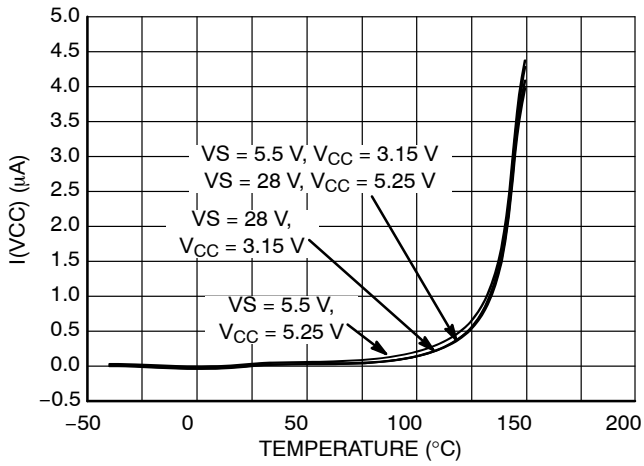

Figure 16. $I(V_{CC})$ vs. Temperature
7. Refer to Figure 16 for the V_{CC} standby current behavior.